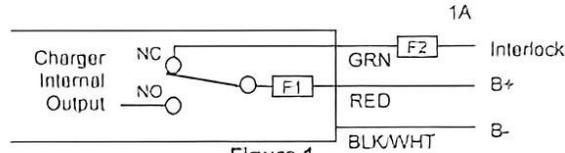

Figure 1
- The green wire outputs battery voltage when the charger is not plugged into AC to provide an interlock function – see Fig. 1. If used, a user-supplied 1A fast-blow external fuse must be installed in-line to prevent damage. Shorting or drawing more than 1A may damage charger and void the warranty.